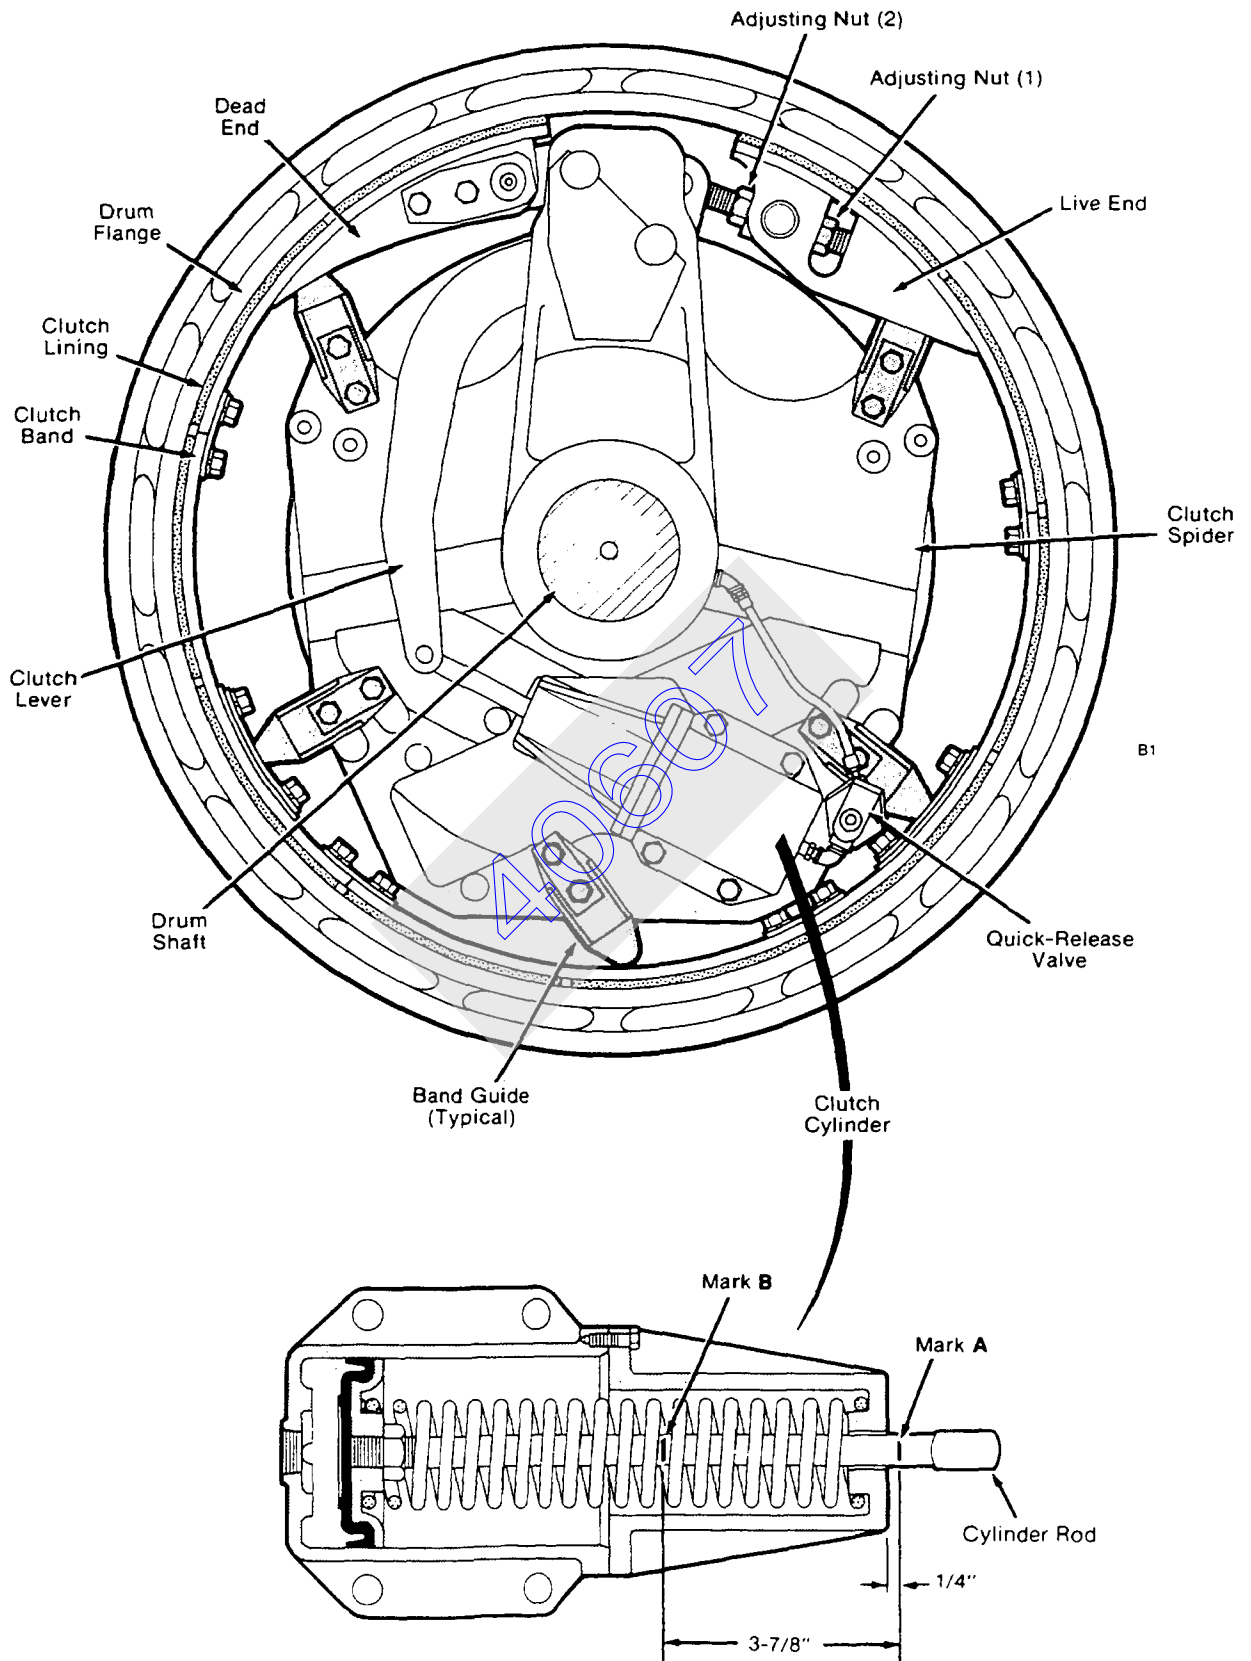

Figure 3. Drum Clutch Assembly
6. **RELEASE** clutch. Mark A, Figure 3 should be 1/4 inch or more from the end of the cylinder. This dimension will vary depending on the amount of clearance between the lining and the drum flange, but the dimension **must not be less than 1/4 inch**.
IMPORTANT Cylinder piston can bottom out, resulting in packing cup damage and improper operation of clutch if Mark A, Figure 3 is less than 1/4 inch from end of cylinder